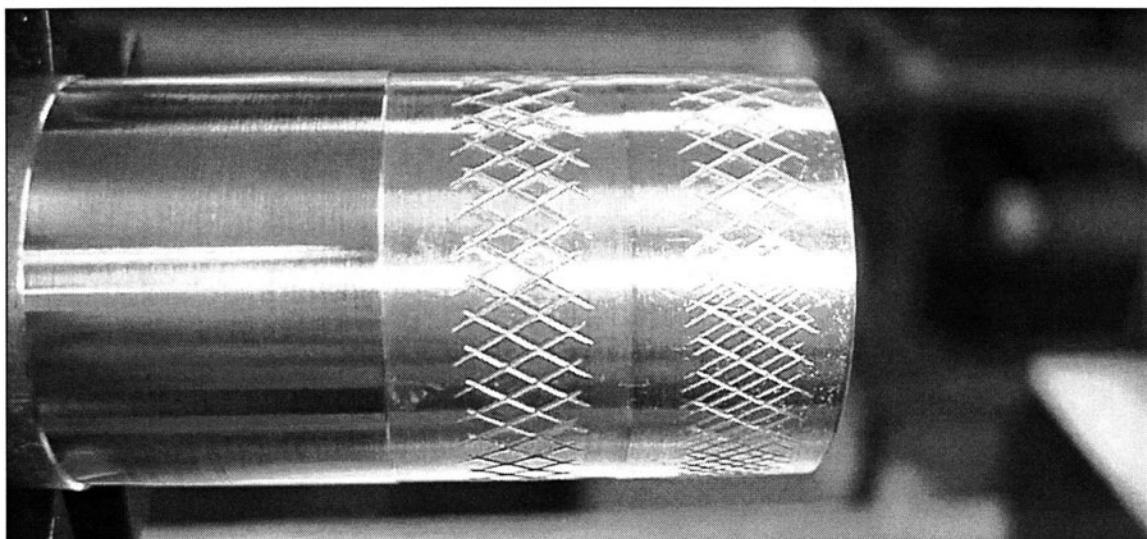

FIGURE 8-15 A test knurl is laid by hand to see if the diameter produces a knurl that tracks in previously laid grooves.
28. *Lay a short test knurl by hand. (See Fig. 8-15)*